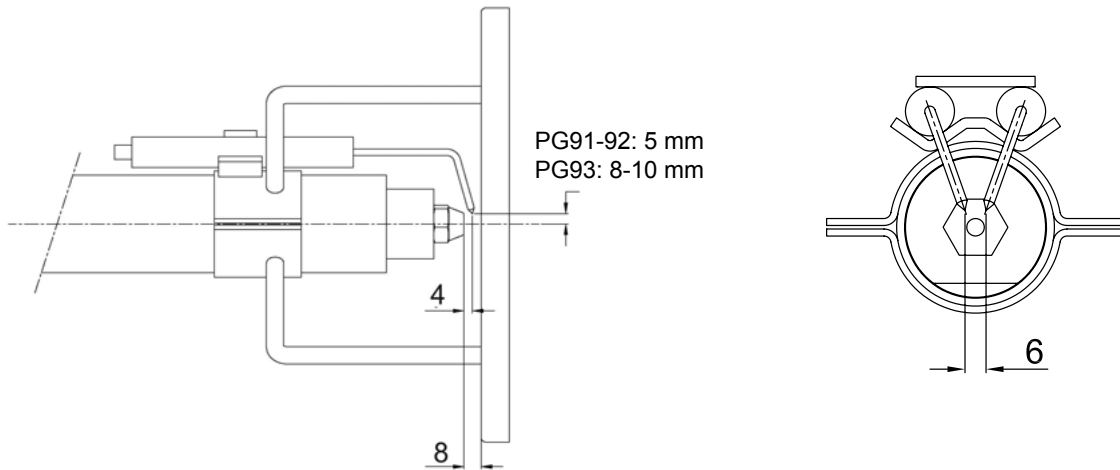

Fig. 24
To guarantee a good ignition the measures showed on the next picture Fig. 24 must be observed.
- 4 loose screw (B) that fasten the ignition electrodes;
- 5 remove the electrodes and replace them, referring to the values quoted on Fig. 24.